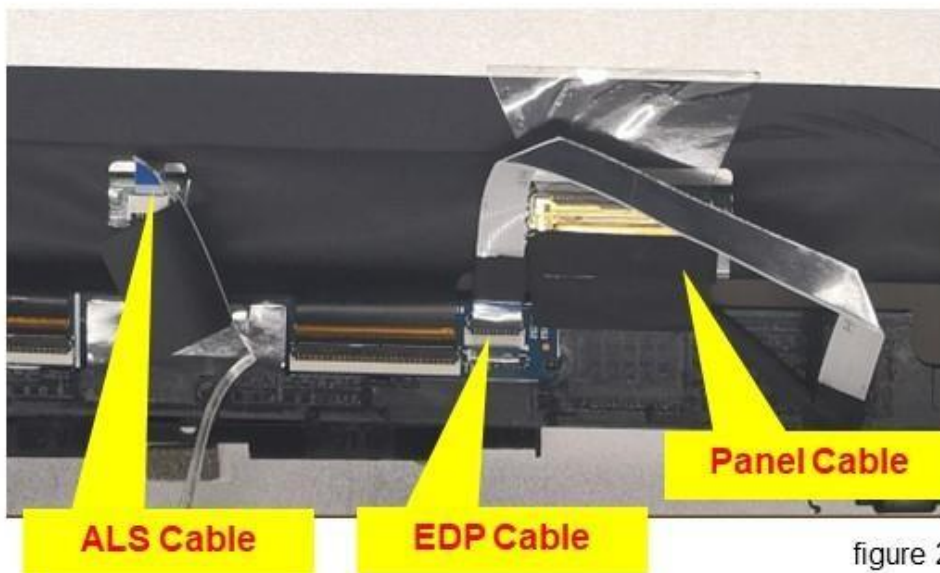

figure 2
2. Disassemble the Panel CNTR & EDP CNTR & ALS FFC CNTR (figure 2)